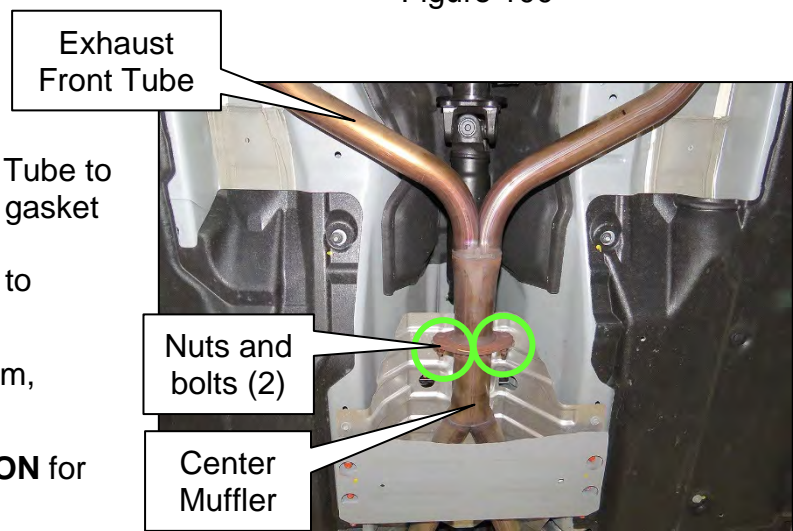

Figure 101
162. Reconnect the Exhaust Front Tube to the Center Muffler with a new gasket and two (2) nuts and bolts (Figure 101), and then torque to specification.